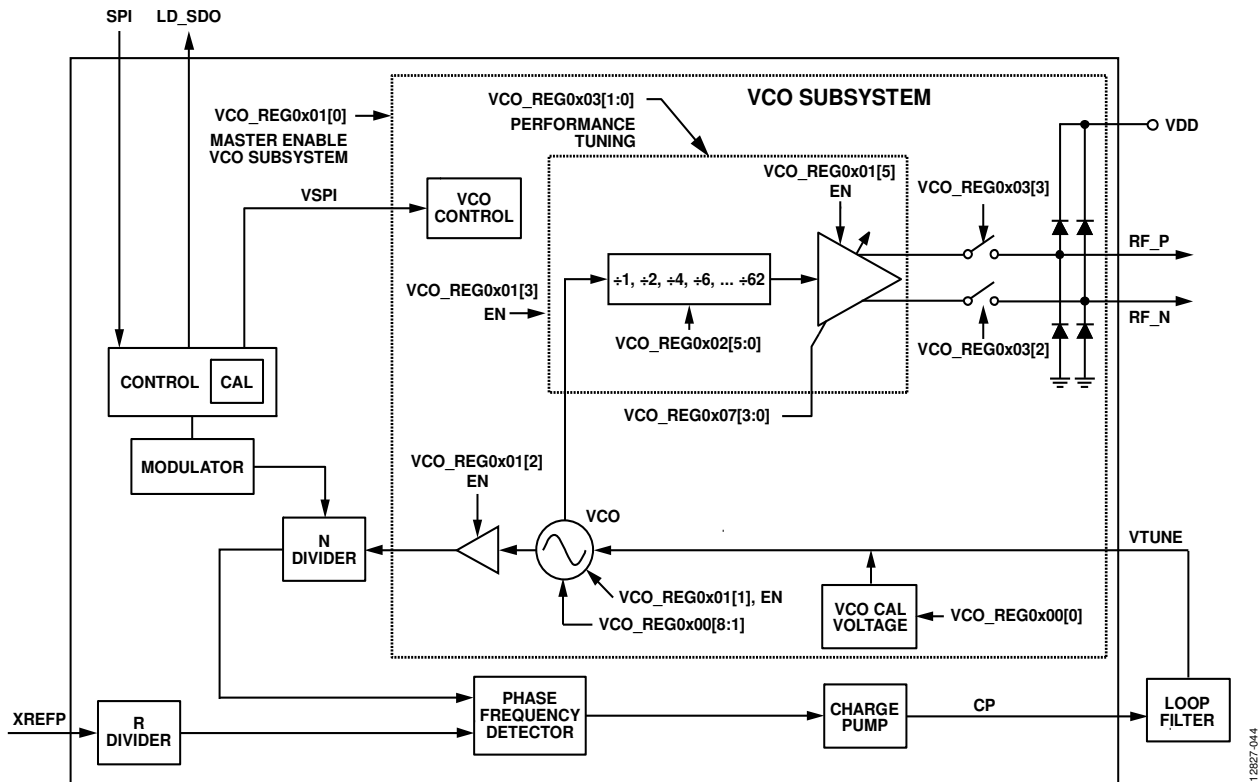

Figure 39. PLL and VCO Subsystems
All modes are VCO register programmable, as shown in Figure 39. One loop filter design can be used for the entire frequency of operation of the HMC832.
- The VCO SPI register, Register 0x05. This is required only for manual control of VCO if Register 0x0A[11] = 1, autocalibration is disabled, or to change the VCO output divider value (VCO\_REG 0x02), see Figure 39 for more information.
Also note that the VCO subsystem registers are not directly accessible. They are written to the VCO subsystem via PLL Register 0x05. See Figure 39 and the VCO Serial Port Interface (VSPI) section for more information about the VCO subsystem SPI.